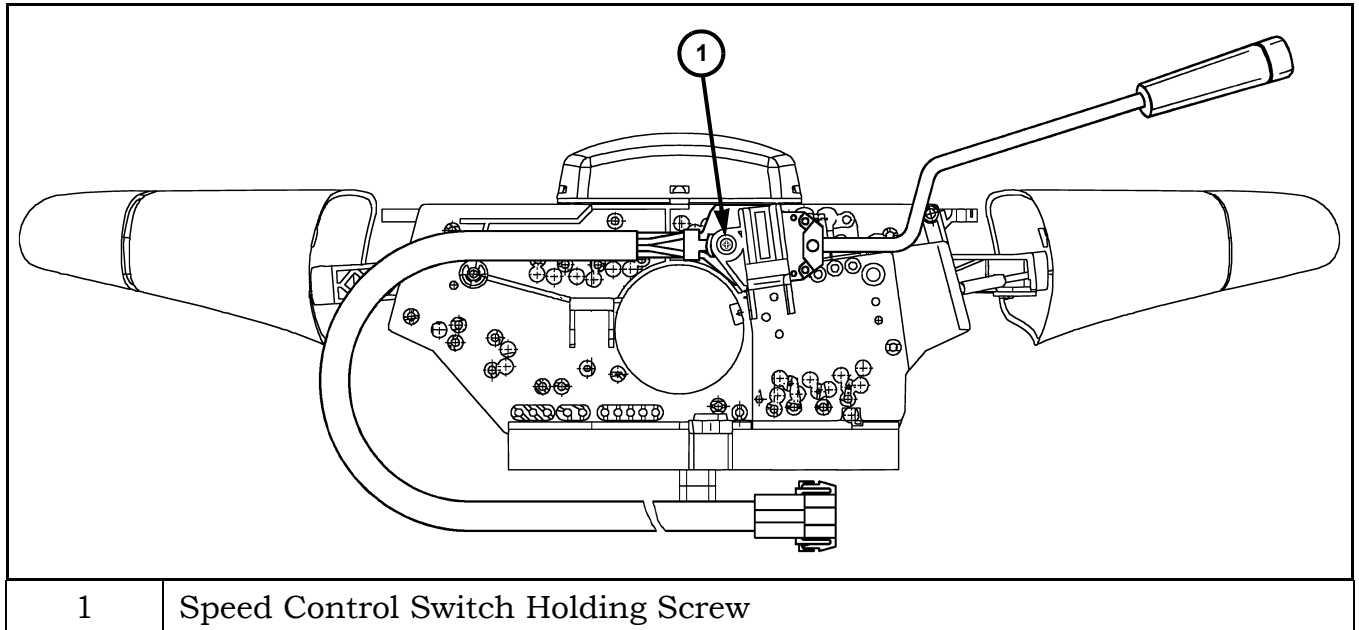

Figure 239 Speed Control Switch Installation
9. Insert the speed control switch, part 05103744AA into its mounting base. Secure the switch with holding screw, part 05126175AA. See Figure 239.